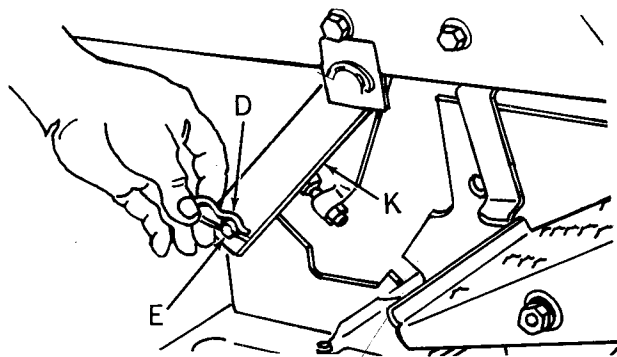

FIG. 27
4. Refer to Fig. 27. Remove retainer springs (D) from pivot shaft (E) and slip rear pivot links (K) from ends of shaft. Replace retainer spring on shaft to prevent losing them.